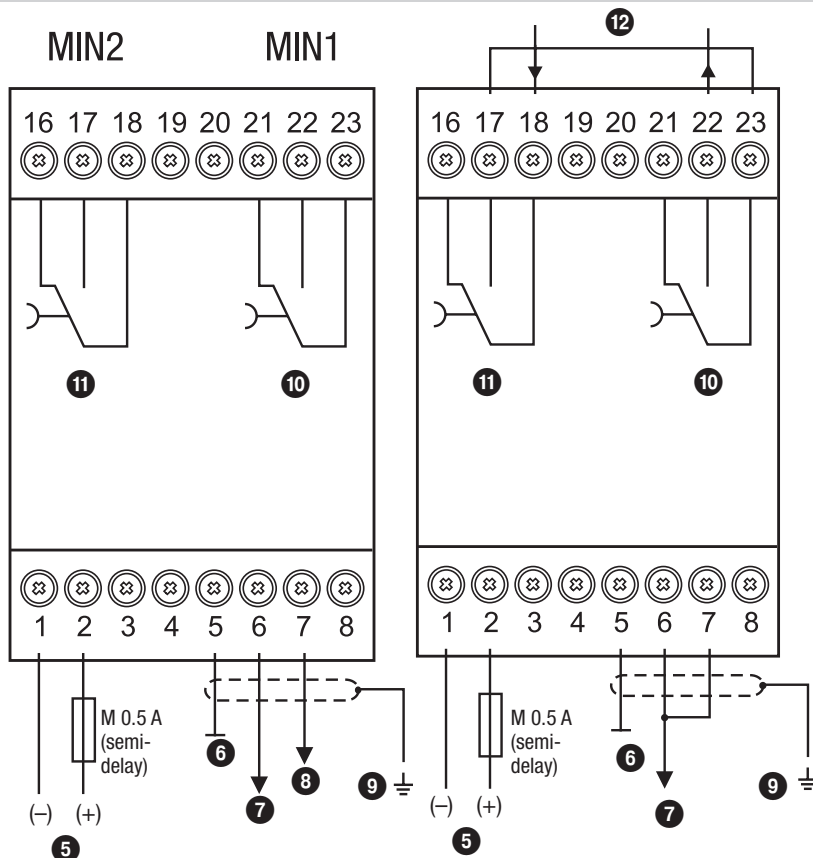

Fig. 3
Wire the upper terminal strip ❶ (terminals 16-18, 21-23) according to the desired switching functions. If only one electrode rod is used please connect the terminals 17 and 23 (safety circuit) and the terminals 6 and 7 with a wire link. **Fig. 3**
Wire terminal strip in accordance with the wiring diagram. **Fig. 3.**